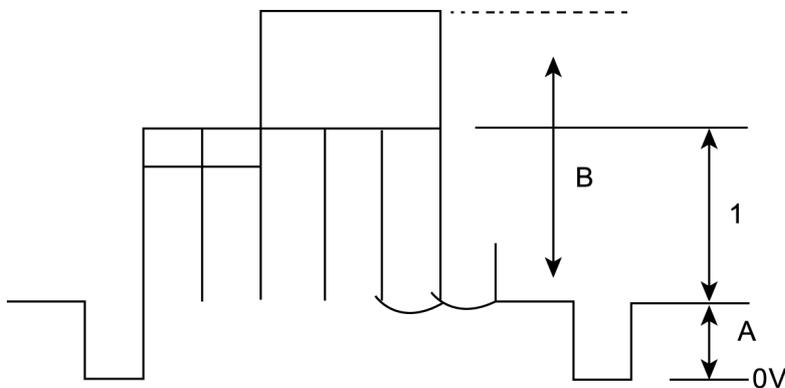

Fig. 4
5. Set (A) to $2.1 \pm 0.1V$ by BRT (CHK2) at measurement point TPL 2 Fig. 4.
1. Connect oscilloscope probe to TPL 2 (G OUT) with $10k\Omega$ series resistor and adjust Contrast so that (B) as in Fig. 4 is $2.4 \pm 0.05V$.
2. Adjust "Sub Colour" so that waveform as in Fig. 4 (1) $2.5 \pm 0.1V$.